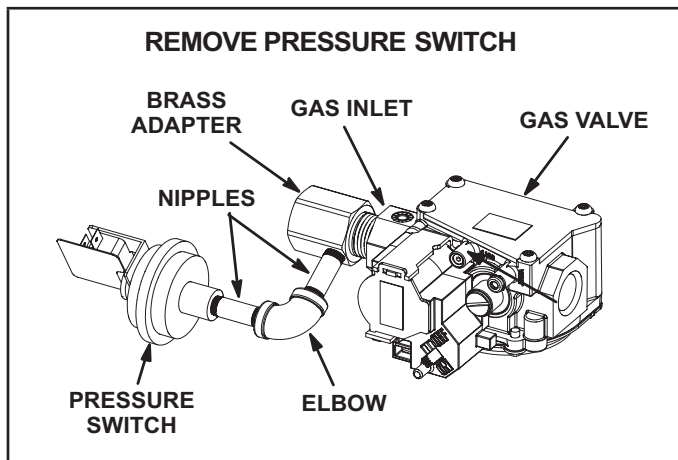

Figure 2
- 6 - Remove the low line pressure switch, nipples, elbow, and brass adapter fittings attached to the gas valve inlet. See figure 2.